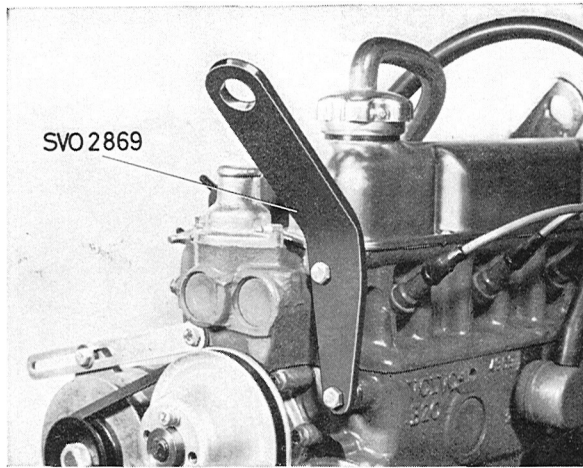

Fig. 2-17. Lifting lug on engine front end
10. Fit lifting arm 2867 to the front end of the engine as shown in Fig. 2-17 and lifting arm 2870 to the engine rear end as shown in Fig. 2-16.